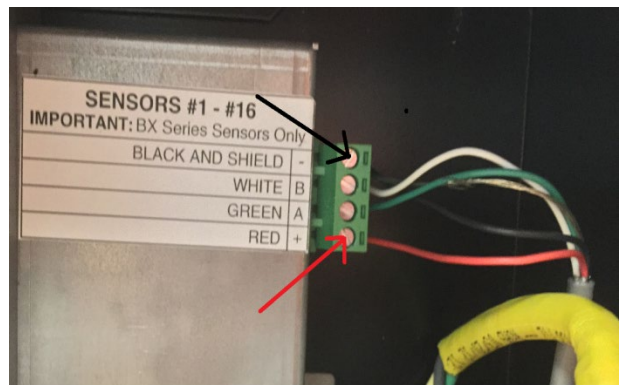

Figure 11.2
- If one sensor has no reply, try wiring directly at the controller. (Figure 11.2)